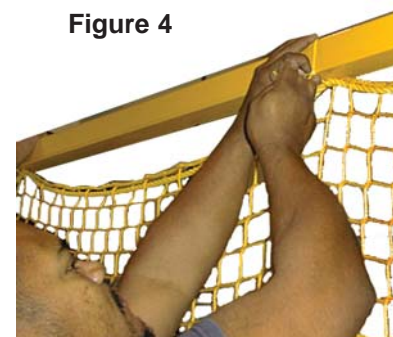

Figure 4
**7.** Attach the MezzNet to the Top and Bottom Cross Bar with nylon ties, spacing the ties every 6 inches. See Figure 4.